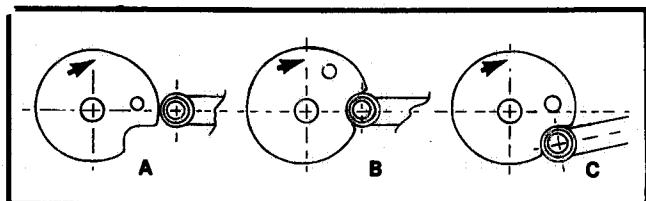

FIG. 11 . CAM POSITIONS.
- (1) Disconnect electrical power from welder. Remove welder from machine or remove cover.
- (2) Place reset lever at "weld" position. Move jaw gap control wheel to No. 6 position.
- (3) Rotate gears until cam is in "A" position. See Fig. 11.
- (1) Disconnect welder from electrical supply line. Remove welder from machine or remove cover.
- (2) Place reset lever at "weld" position.
- (3) Turn jaw gap control wheel to No. 2 position.
- (4) Rotate the gears manually until the cam and cam follower are in position shown in Fig. 11.
- (4) Jaw gap should be 1/2-inch. Turn jaw gap adjustment screw to achieve this distance.
- (2) Disconnect electric power.
- (3) Check to see if the cam stops in position "A". See Fig. 11.